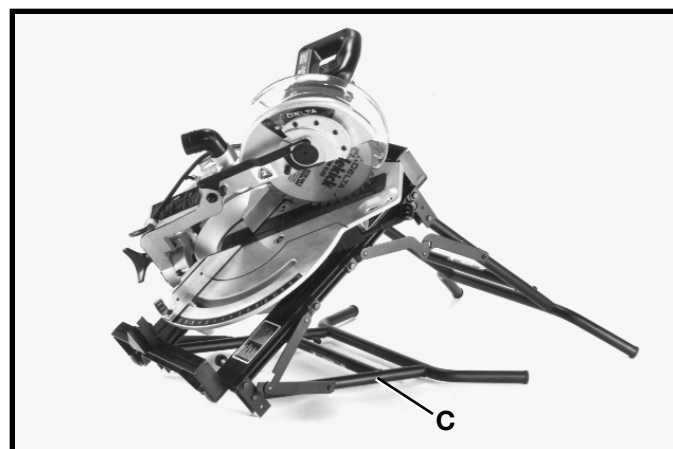

Fig. 57
4. Unlock hinges on left leg and fold left leg (C) in, as shown in Fig. 57.